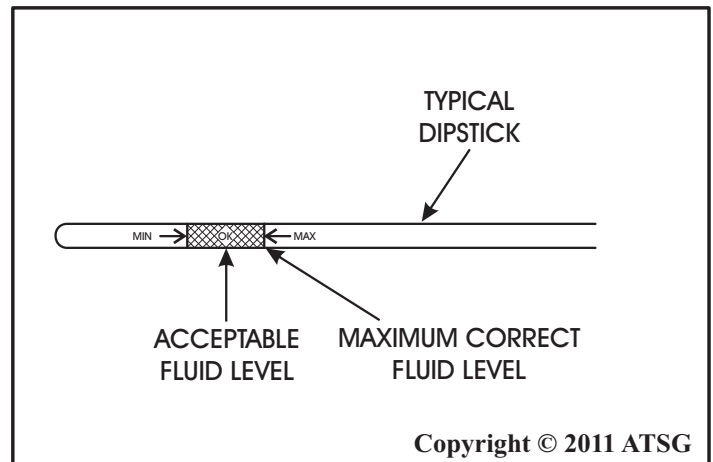

Figure 28
- (1) Transmission fluid level must be checked before performing the pressure tests and must be at normal operating temperature for accurate check. Drive vehicle if necessary to bring fluid temperature up to normal operating temperature of 82°C (180°F).
- (2) Position vehicle on flat level surface.
- (3) Start and run engine at curb idle speed.
- (4) **Apply Parking Brakes.**
- (5) Shift transmission through all gear ranges and then back to the Neutral position.
- (6) Remove dipstick and check fluid level.
- (A) Correct level is in crosshatch area.
- (B) Correct maximum level is to MAX arrow.
- (C) Incorrect level is at or below MIN line.
- (7) If fluid level is low, add only enough of the **Mopar® ATF Plus 4**, to restore correct fluid level. Do not overfill (See Figure 28).